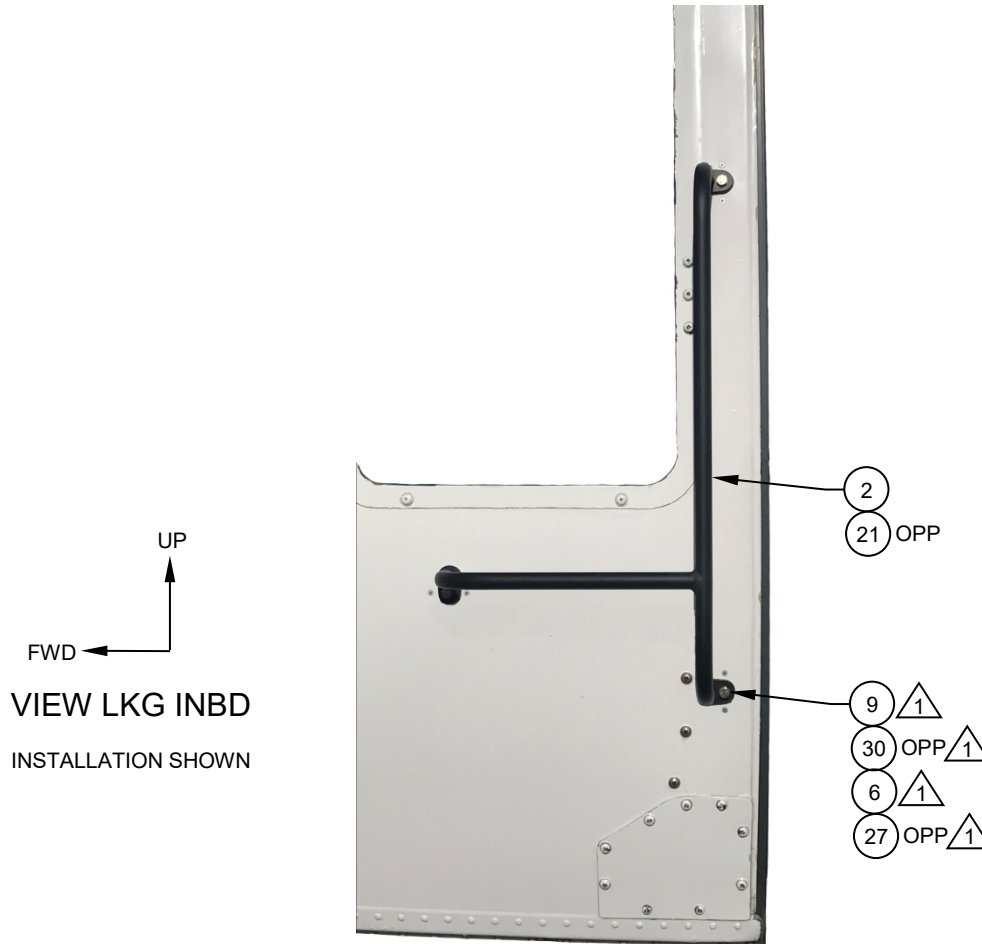

Figure 13
6. Attach the Handle, Assy, LHS/RHS FWD (Items 2 & 21 OPP) using the supplied hardware as shown. Reference Figure 13.